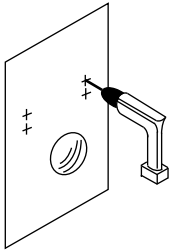

Fig 4
2. Drill a 6mm holes where you have marked (Fig 4).